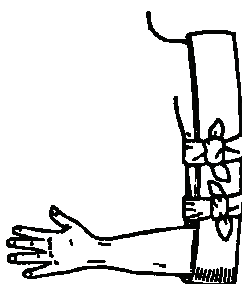

Figure 3-17. Splint to an upper arm
- c. If you are applying the splint to an upper arm, position it so the short side is in the casualty's armpit (but not pressing on the armpit), the long side extends to the shoulder, and the upper arm is between the two sides to the splint. Refer to Figure 3-17.